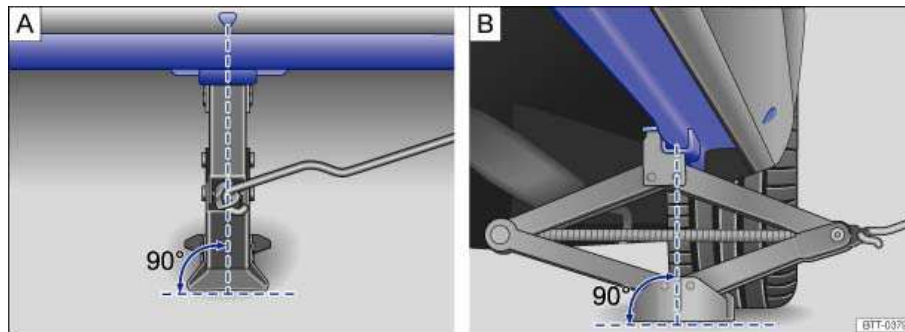

Fig. 212 Jack in position at the left rear lift point.
9. Position the jack so that its base is directly underneath the lift point ⇒ fig. 212, making sure that the entire base of the jack rests securely on the ground.
10. Align the jack and wind up the jack claw at the same time, until the claw cradles the vertical rib underneath the vehicle ⇒ fig. 212 (arrow).
- Position the jack only at the described vehicle lift points. Before you raise your vehicle, always make sure the jack claw properly grips the vertical rib under the sill so that the jack does not slip off when you are raising the vehicle ⇒ fig. 212.